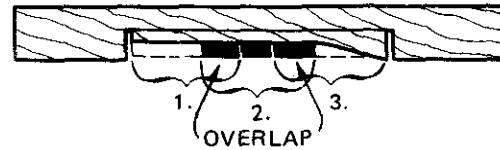

Fig. 9-22 Sequence of cuts.
5. If the surface is wider than the chisel, press part of the chisel against the portion just cut, figure 9-22. This helps to guide and keep in line that part of the chisel which is cutting a new portion of the surface.